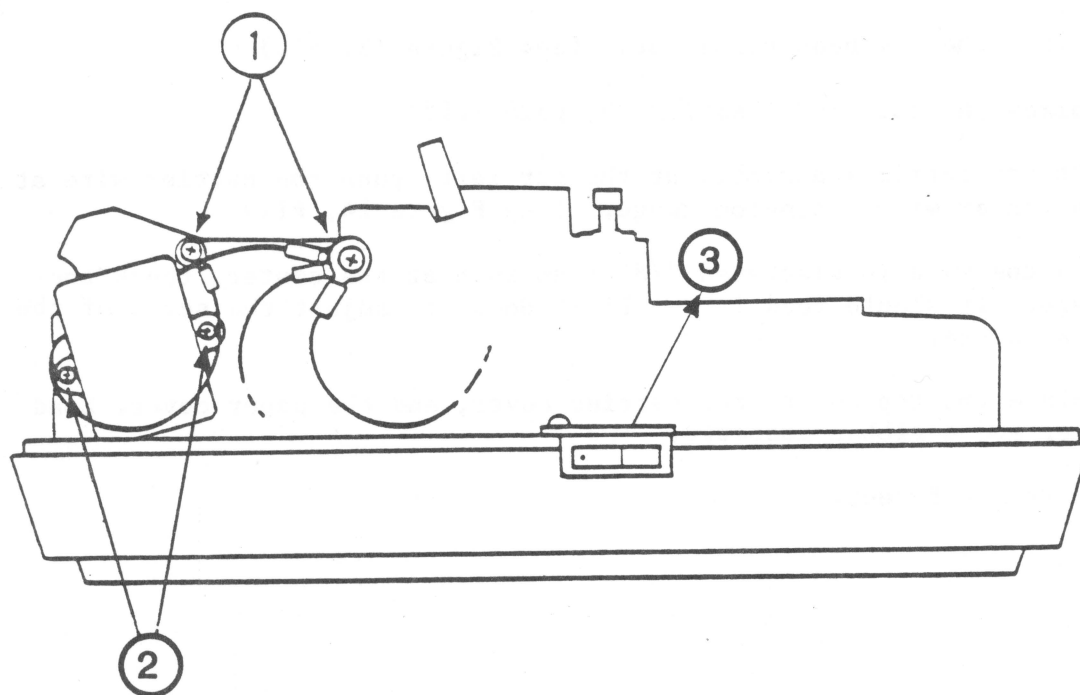

FIGURE 1
4. Remove the screw and washers holding ground straps to the side frame. (See Figure 1, #1.)
5. Remove the two screws from the noise filter. (See Figure 1, #2.)
7. Remove screw from plate over power switch. (See Figure 1, #3.)